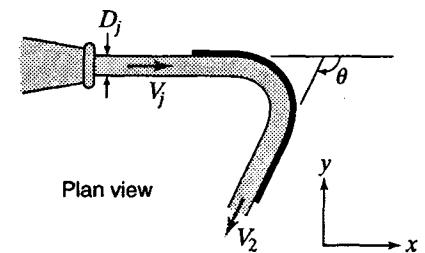

Figure X6.6.6
6.6.7 Refer to Fig. X6.6.6. Assume that friction is negligible, that $\theta = 115^\circ$, and that the water jet has a velocity of 25 m/s and a diameter of 40 mm. Find (a) the component of the force acting on the blade in the direction of the jet; (b) the force component normal to the jet; and (c) the magnitude and direction of the resultant force exerted on the blade.